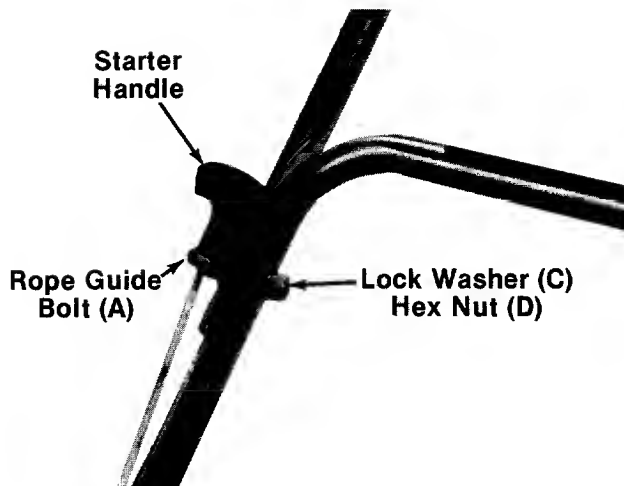

FIGURE 4.
5. Insert the rope guide bolt (A) through the right hand side of upper and lower handle.
7. Slip the starter rope into the rope guide bolt as shown in figure 4. Secure the rope guide bolt with lock washer (C) and hex nut (D). If more slack is needed in the starter rope, disconnect and ground the spark plug wire. Depress the blade control handle and pull additional rope out from the engine.